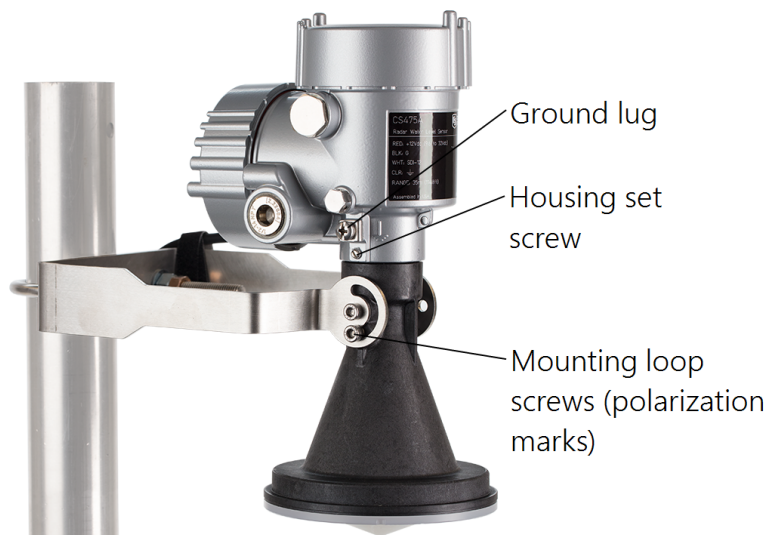

FIGURE 7-2. Housing set screw, mounting loop screws and ground lug
- a. Loosen the set screw on the housing (FIGURE 7-2 (p. 15)).
5. Connect the sensor ground lug (FIGURE 7-2 (p. 15)) to a local earth ground using at least a 14 AWG wire. Connection to a local earth ground provides better surge or electrostatic discharge (ESD) protection than just grounding it via the sensor cable. While connected to local earth ground, the energy will pass to the local ground instead of traveling through the cable possibly damaging the electronics in the enclosure.